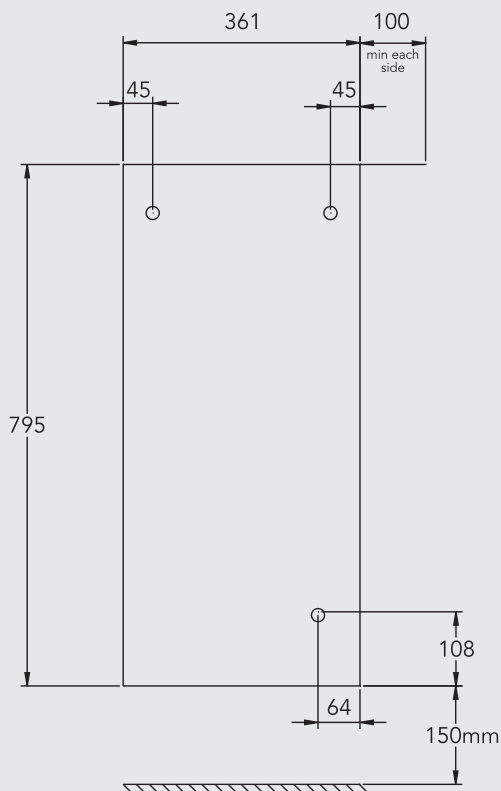

Fig. 1
- Using the fixing dimensions (see fig. 1), mark the fixing hole positions on the wall.